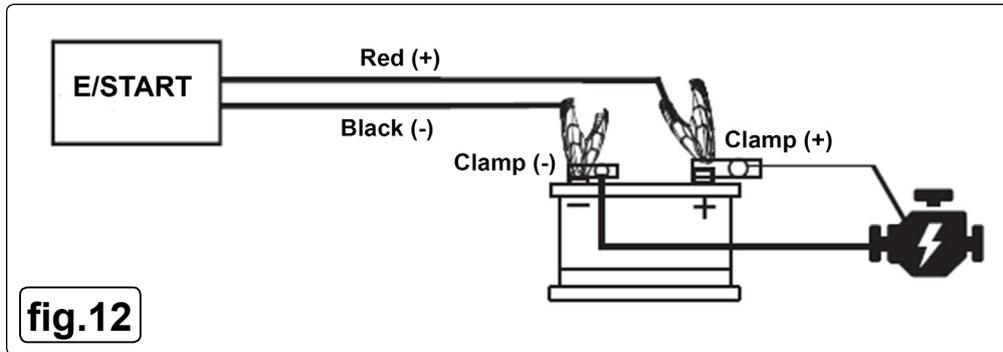

fig.12
5.8.6. Put the POSITIVE E/START LEAD and VEHICLE BATTERY POSITIVE onto the BATTERY POSITIVE TERMINAL. Remove the E/START's POSITIVE lead after it is fastened to the battery terminal, see fig.12.